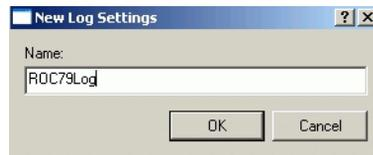

Figure 80. Entering a Name for the Log
4. Enter a name for the log, Figure 80.